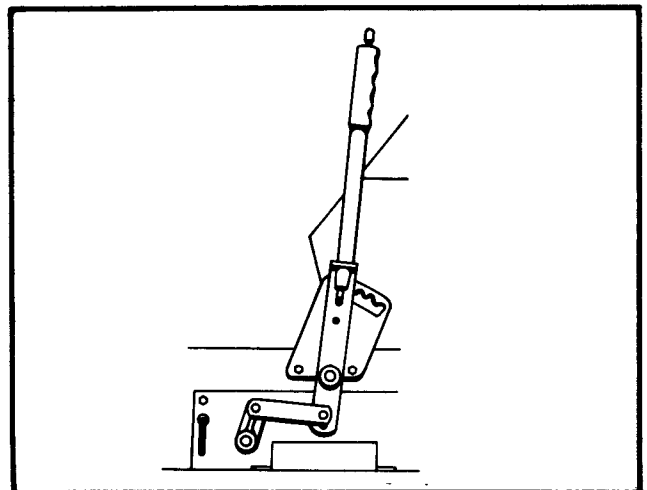

Figure 5. Cutting Height Adjustment Control
2. Cutting Height Control. Cutting height is controlled by the control lever (figure 5) at the right of the steering column and provides for cutting heights of 1-1/2, 2, 2-1/2, 3, and 3-1/2 inches. Detent latches maintain the height selected and can be disengaged to change heights by pressing the thumb control button on the grip of the control lever.